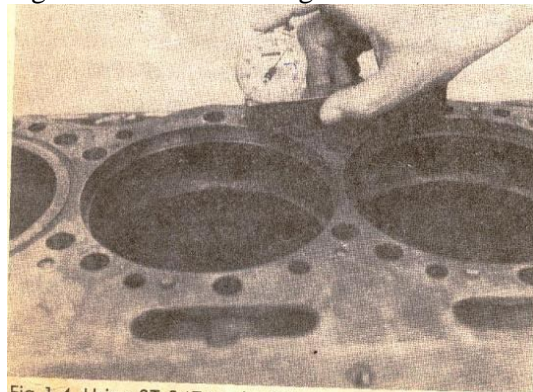

Fig. 1-4. Using ST-547 to check liner counterbore depth
- ii. Measure the block counter bore depth with a dial indicator depth gauge or ST – 547 Gauge block. Always measure the counter bore depth on the ledge at the edge of liner bore. Fig. 1-4.